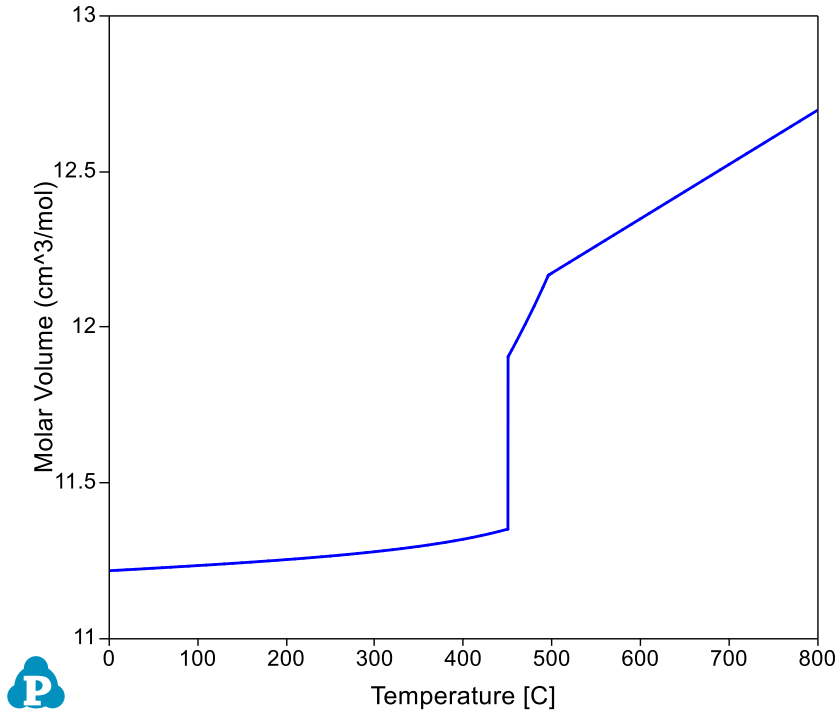
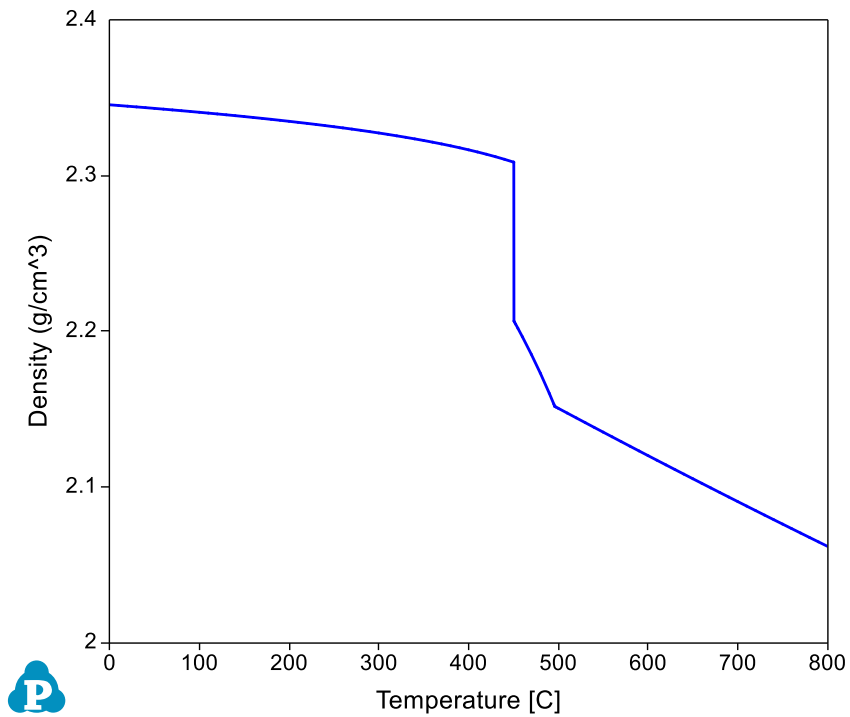

Figure 1.13.3: Calculated molar volume of the system in Al-Mg binary from 0 to 800°C at a fixed composition
Figure 1.13.4: Calculated density of the system in Al-Mg binary from 0 to 800°C at a fixed composition
- Figure 1.13.3 shows the calculated molar volume which increases with the increase of temperature; Figure 1.13.4 is the calculated density which shows the opposite trend as that of the molar volume;